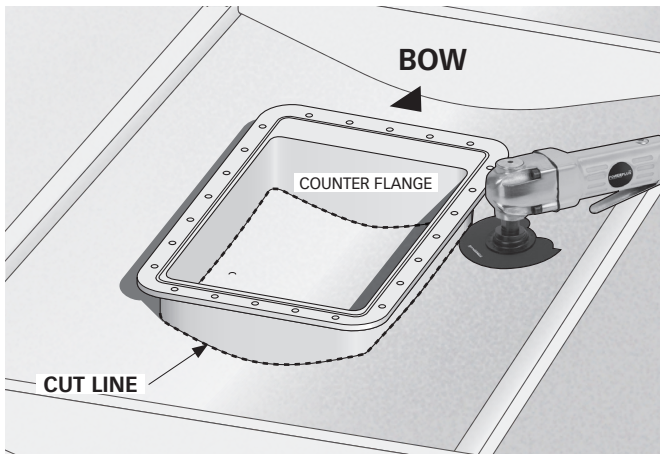

Fig.2
- Mark the inner perimeter of the counter flange on the hull with a marker (fig. 2).